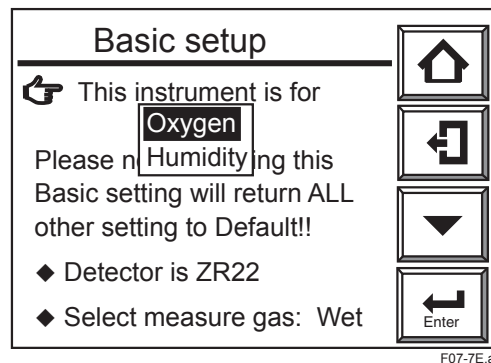

Figure 7.7 Equipment Setup
- (6) If the converter type is to be changed, press the [Enter] key. The display shown in Figure 7.7 then appears.
- (7) Use the [▼] key to select the type of equipment. Then press the [Enter] key to complete the converter selection.
- (8) If the type of converter is changed after setting the operating data, those data are then initialized and the default settings remain. Reset the operating data to meet the new type of equipment.